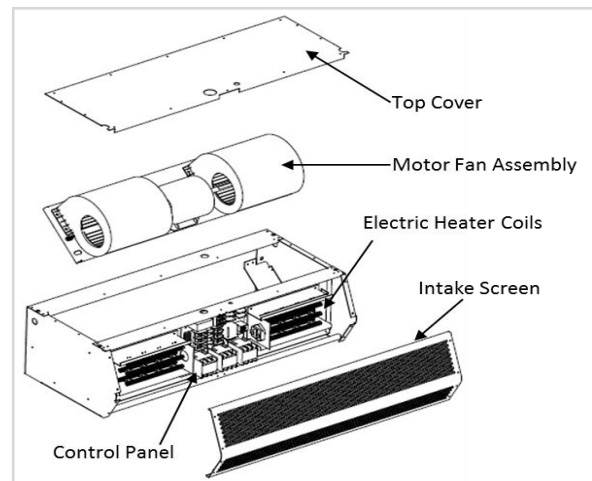

FIG. 1 (Electrically Heated STD2 unit)
3. Electrically heated Wind Stopping and WindGuard units include an electric heater control panel mounted on the right hand side, as standard (FIG. 1). Optional motor/unit control panel available, which includes a remote 24 volt thermostat with On/Off switch with terminals provided.